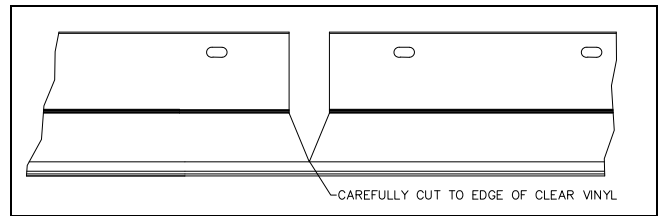

Figure 13
5. Cut out areas marked with an industrial scissors or aviation shears. DO NOT CUT THROUGH CLEAR VINYL SECTION OF DRIP CAP, except when trimming off at ends of flanker units. See Figure 13